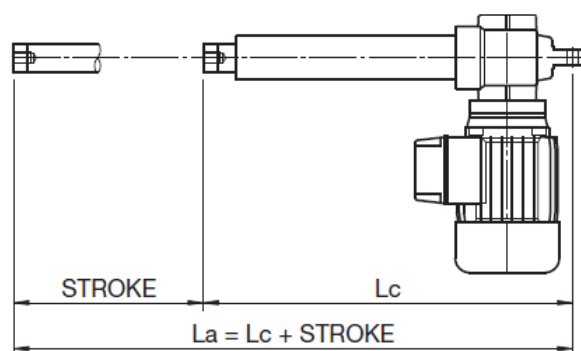

Figure 6.6 – “Lc” and “La” dimensions
- The positions of the two limit switches are the extreme travel positions Lc and La (see Fig. 6.6).
- The activation positions of the two limit switches are the extreme travel positions Lc and La (see Fig. 6.6).
- Check if the extreme dimensions of the actuator “Lc” and “La” (see Fig. 6.6) are compatible with extreme positions of the plant component that has to be moved.
- Before to start relubrication, put the actuator in extended position (La – see Fig. 6.6)